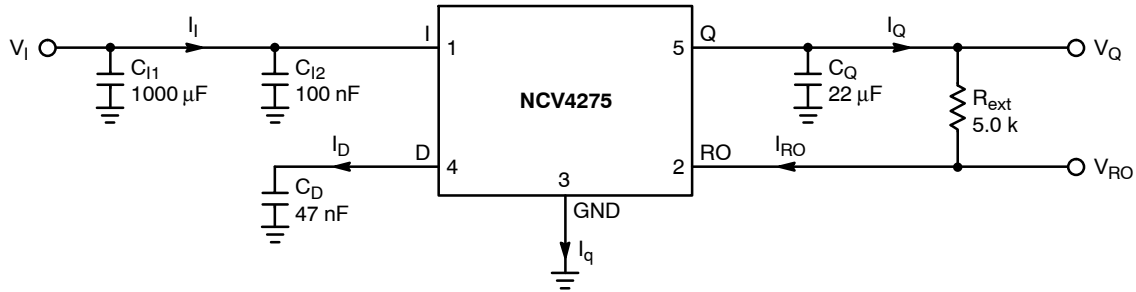

Figure 13. Test Circuit
**ELECTRICAL CHARACTERISTICS** ( $V_I = 13.5\text{ V}$ ;  $-40^\circ\text{C} < T_J < 150^\circ\text{C}$ ; unless otherwise noted. Refer to Figure 13 for conditions.)
The NCV4275 is an integrated low dropout regulator that provides 5.0 V, 450 mA protected output and a signal for power on reset. The regulation is provided by a PNP pass transistor controlled by an error amplifier with a bandgap reference, which gives it the lowest possible drop out voltage and best possible temperature stability. The output current capability is 450 mA, and the base drive quiescent current is controlled to prevent over saturation when the input voltage is low or when the output is overloaded. The regulator is protected by both current limit and thermal shutdown. Thermal shutdown occurs above 150°C to protect the IC during overloads and extreme ambient temperatures. The delay time for the reset output is adjustable by selection of the timing capacitor. See Figure 13, Test Circuit, for circuit element nomenclature illustration.
The value for the output capacitor CQ shown in Figure 13, Test Circuit, should work for most applications; however, it is not necessarily the optimized solution. Stability is guaranteed for CQ ≥ 22 μF and an ESR ≤ 5.0 Ω. The range of stability versus capacitance, load current and capacitive ESR is illustrated in Figure 2.